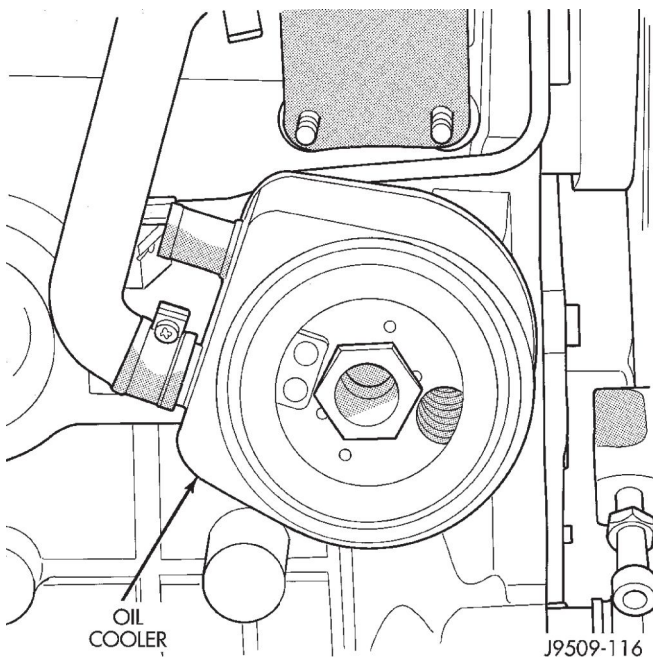

Fig. 62 Oil Cooler
- (1) Remove oil filter.
- (2) Remove oil cooler adapter bolt.
- (3) Remove oil cooler (Fig. 62).